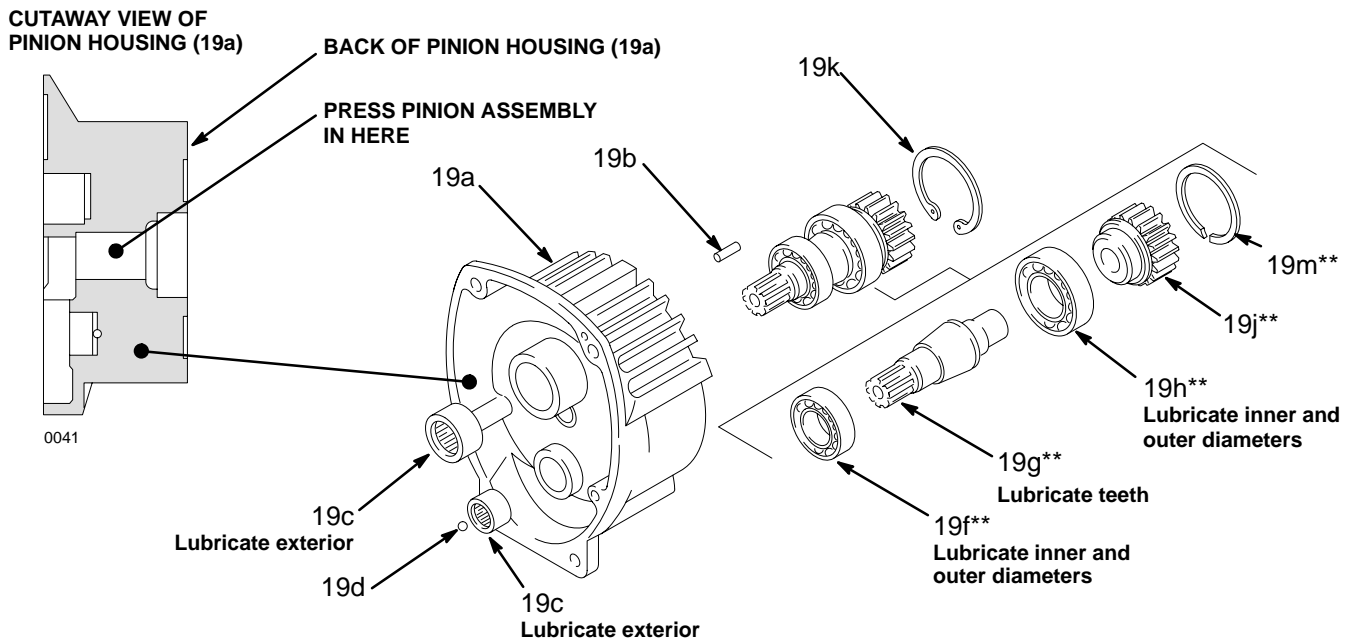

Fig. 21
- 1 Remove the two bottom screws (3) first, and then remove the top three screws (3).
- 2 Pull the pinion housing (19p) away from the clutch housing (17). The armature (9b) will come with it.
- 3 Pull the armature (9b) off the hub (19j – see Fig. 21) of the pinion housing.
NOTE: Refer to Fig. 21 except where noted.
5. Apply lubricant to the parts as shown in Fig. 21.